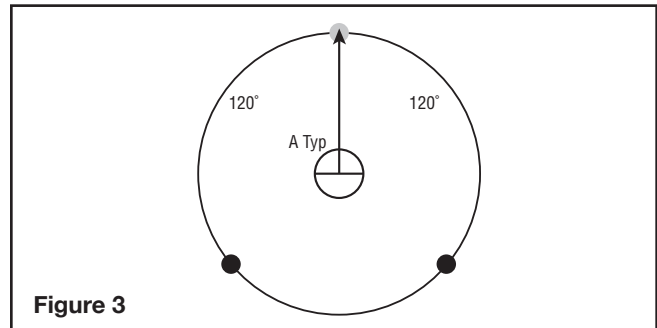

Figure 3
- Recommended bolt and threaded rod sizes for installation (to be supplied by installer) are located in figure 3.